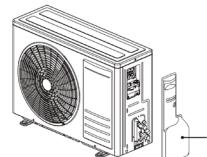

fig. 23 -
- Retire o painel lateral (1 - "fig. 23 -").